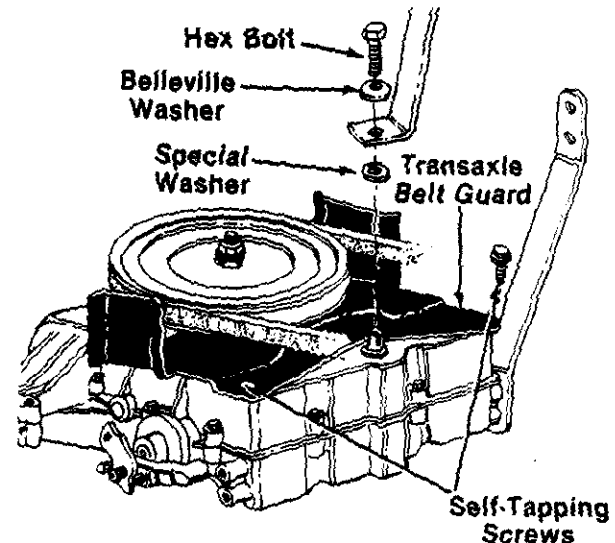

FIGURE 26.
7. Remove two self-tapping screws which hold the transaxle belt guard to the top of the transaxle. See figure 26.
8. Remove the transaxle shift lever by removing the hex bolt and Belleville washer. Lift off the special "D" washer. See figure 26.